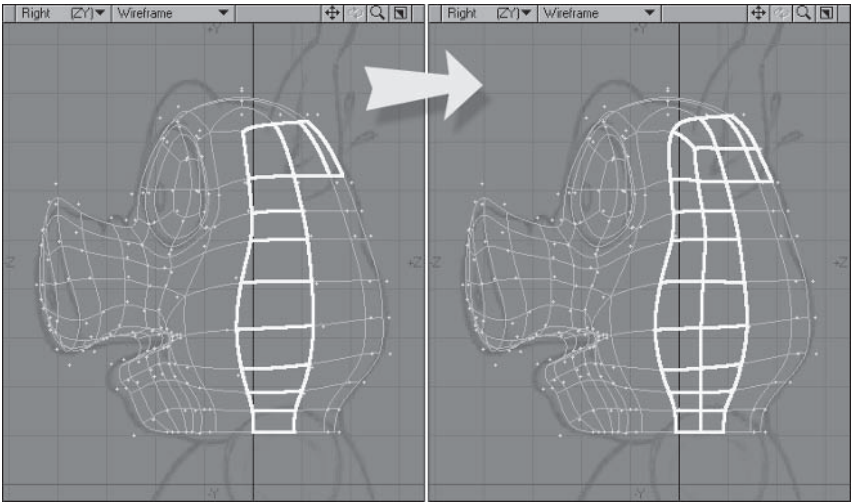

Figure 5.3-37. Cutting this band gives us enough polygons to work with for the ears.
1. Start by preparing the area of the head from which the ears are shifted. There isn't enough geometry there at the moment, so a new band needs to be created. Turn off **Symmetry**, select the polygons shown in Figure 5.3-37 and **Cut**. Since we changed the Cut settings last time it was used, they need to be changed back to the default. In the Cut options panel, change Modes to **Delete** and click one of the divisions. Change Modes